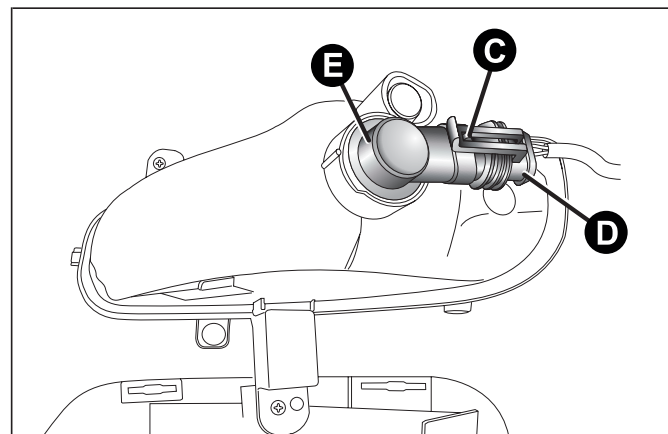

fig. 130
- ☐ adjust the catch C fig. 130 and disconnect the electrical connector D;